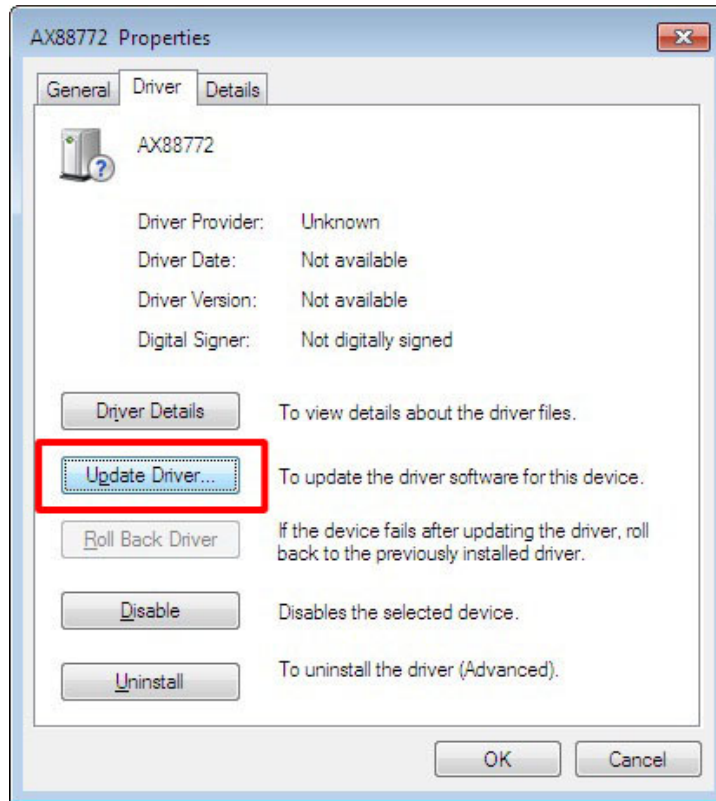

Figure 6-16: AX88772 Properties Window
Step 6: The **AX88772 Properties** window appears (Figure 6-16).